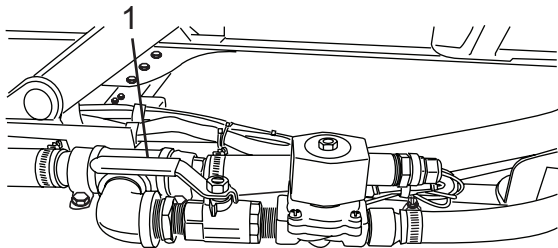

Figure 83
1. Open the water injection ball valve (Figure 83, Item 1).
4. Close the water injection ball valve (Figure 83, Item 1).